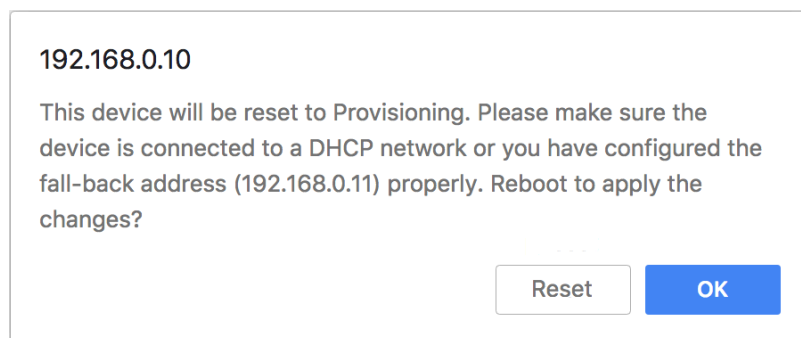

Figure 16. Unit reboot dialog (typical)
- The web browser will show the unit reboot dialog (Figure 16 \(page 54\)).